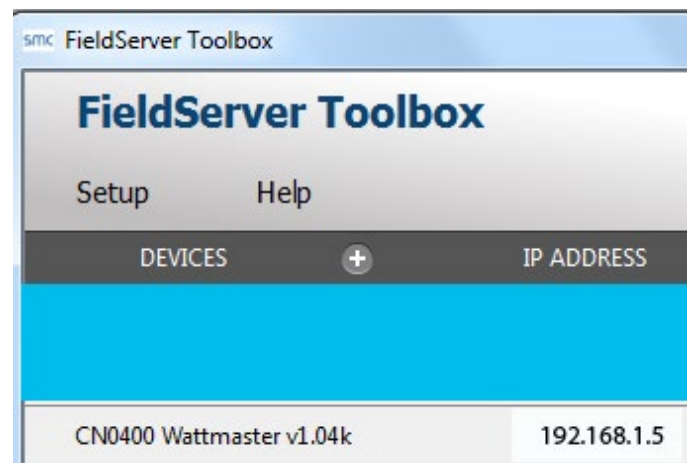

Figure 32: FieldServer Toolbox
5. Once launched, the FieldServer Toolbox will automatically discover the attached PT-Link (this operation may take a minute). If the connected device does not display, review the section "IP Address Configuration" to make certain your PC is on the default network as required to communicate with the PT-Link. See **Figure 32**.